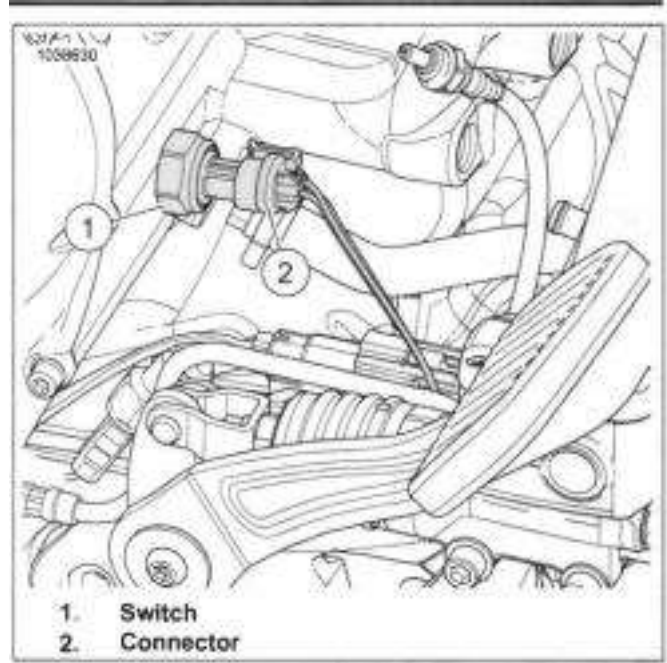

Figure 7-36. Oil Pressure Switch
1. See Figure 7-36. Disconnect connector (2).
2. Remove switch (1).
1. See Figure 7-36. Install switch (1). Tighten.